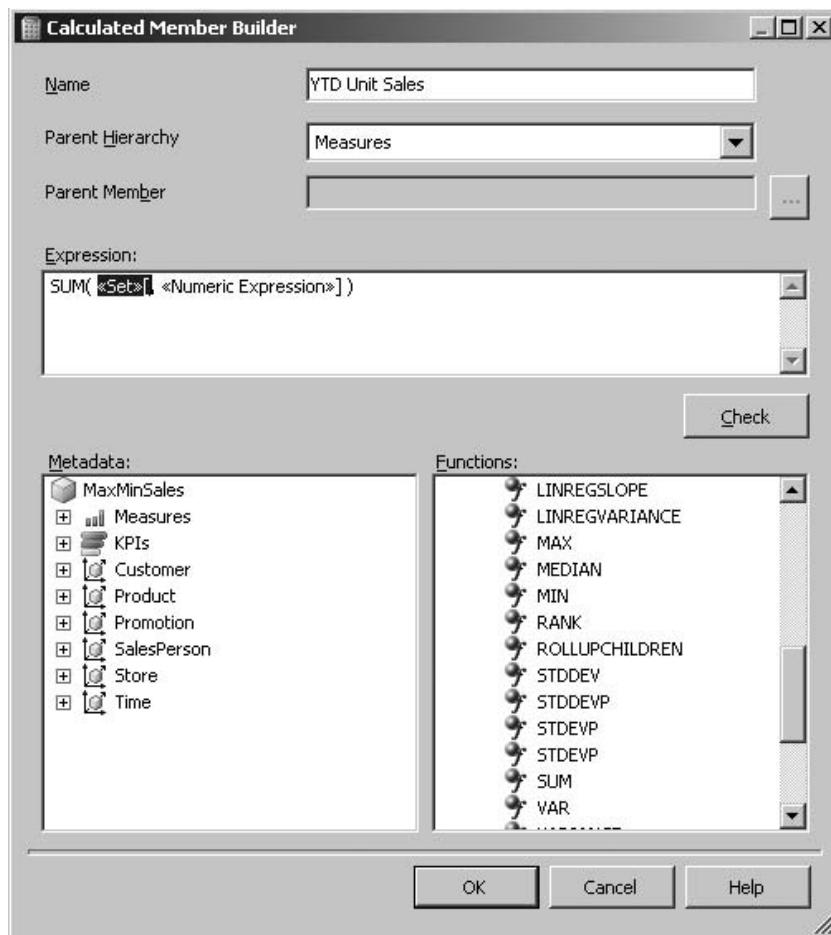

Figure 16-32 Building a calculated member
18. Highlight the <<Set>> placeholder and the left square bracket in the Expression area, as shown in Figure 16-32.